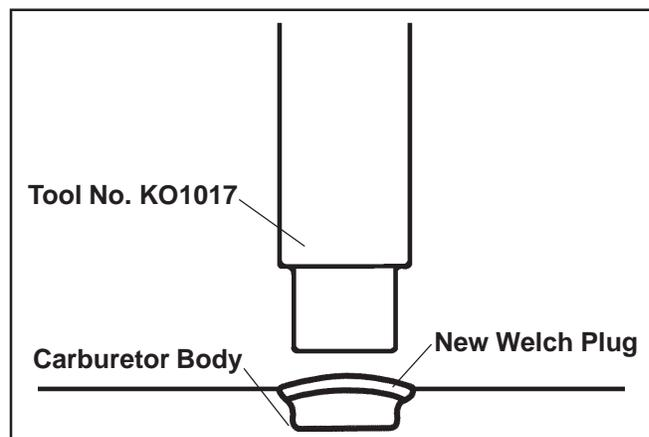

Figure 5-9. Installing Welch Plugs.
3. Use the end of the tool that is about the same size as the plug and flatten the plug. **Do not** force the plug below the surface of the cavity. See Figure 5-9.